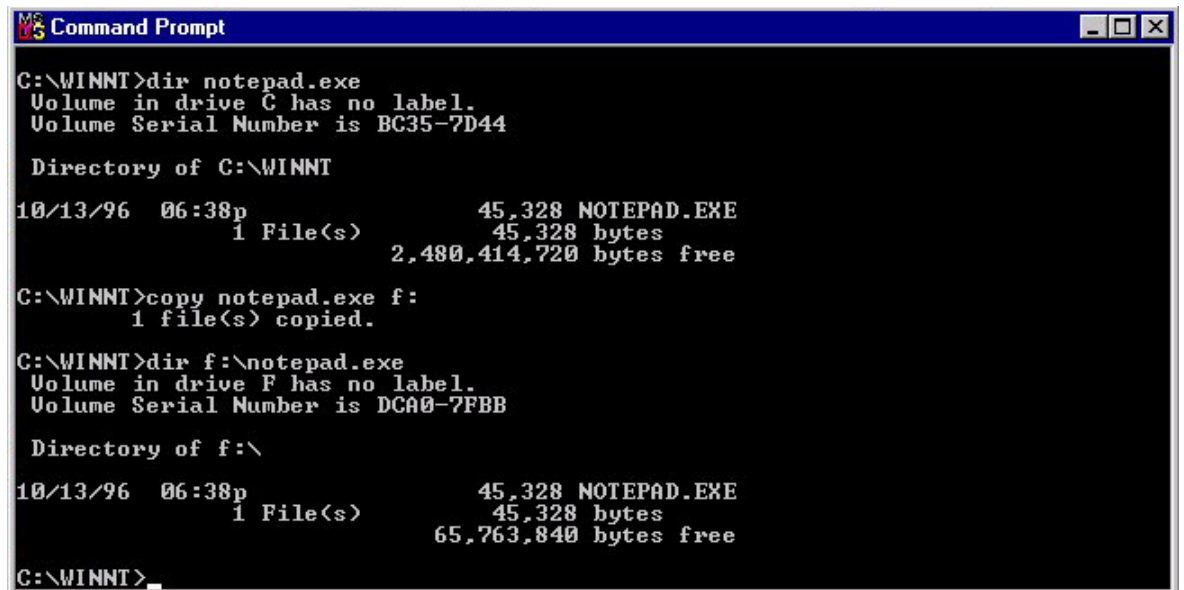

Figure 3.12 Verifying File Copy Operation
5. Display the contents of the new device to make sure the copy operation completed successfully (see Figure 3.12). The copied file should be displayed with the correct file size. If desired, compare the copied file with the original file to verify no differences.
- b) Copy a file to each new device to make sure that the devices are functioning properly (see Figure 3.12).